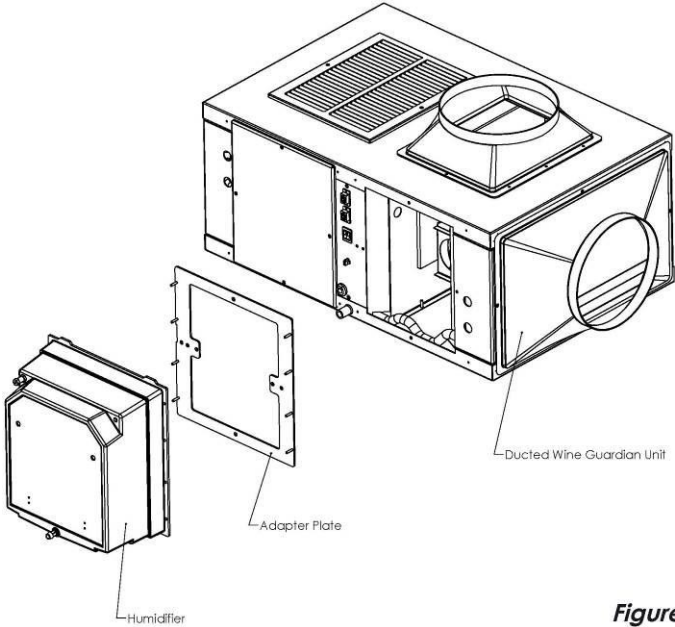

Figure 5.0
- 2) Select the proper adapter plate for the cooling unit. Models D200 and SS200 for 60Hz and WG175 for 50Hz units require a larger adapter plate and install on the side opening using the screws from the panel removed above. The adapter plate allows the humidifier to be mounted in either a forward position or back toward the center by simply rotating the adapter plate 180 degrees. (See **Figure 5.0**)